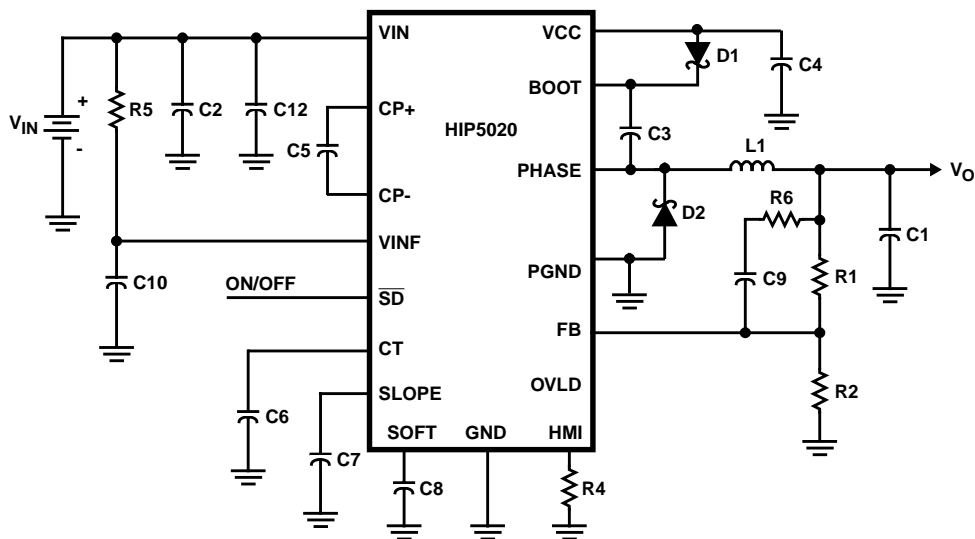

FIGURE 1. EXAMPLE APPLICATION CIRCUIT
**Electrical Specifications**  $V_{IN} = 6.3VDC$ , Components referenced from Figure 1. TYP values at  $T_J = 25^\circ C$  and MIN, MAX limits are for  $T_J$  from 0°C to 125°C; Unless Otherwise Specified
**Electrical Specifications**  $V_{IN} = 6.3\text{VDC}$ , Components referenced from Figure 1. TYP values at  $T_J = 25^\circ\text{C}$  and MIN, MAX limits are for  $T_J$  from  $0^\circ\text{C}$  to  $125^\circ\text{C}$ ; Unless Otherwise Specified **(Continued)**
The HIP5020 provides the flexibility to meet differing needs. This section illustrates the trade-off of component selection for three DC-DC converter circuit designs. Each circuit is optimized for a specific goal: Circuit 1 is optimized for high efficiency, Circuit 2 is optimized for small size, and Circuit 3 is optimized for low cost. Figure 1 shows the schematic common to all three converter designs. Table 1 shows the expected performance parameters for each circuit. Table 2 gives the value of each component referenced in Figure 1. Table 3 provides a listing of suggested vendors for the major (or critical) components. Figures 2, 3 and 4 show the efficiency and transient performance of each circuit.
These characteristics are for the circuit shown in Figure 1 with the components given in Tables 2 and 3.
The following description refers to symbols and components in the Functional Block Diagram and Figure 1. Figure 1 shows the HIP5020 in a DC/DC converter.
The application circuits shown in Figure 1 and described by Tables 1 and 2 illustrate component trade-off to achieve size, cost and efficiency goals. A design and simulation software program is available that simplifies the small signal component selection (<http://www.semi.harris.com>). This section provides additional guidance for selecting alternate components.